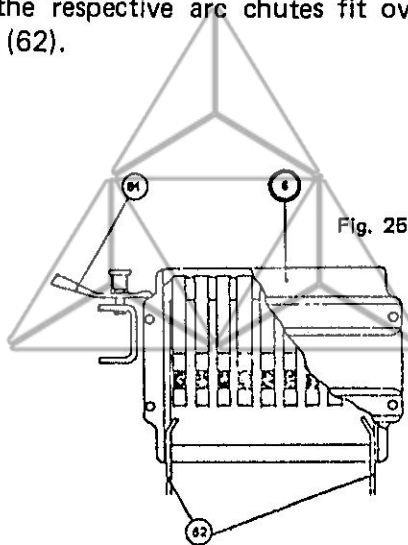

Fig. 25
- A. **Arc Chute (Fig. 25).** To remove arc chute, raise retaining lever (61), rotate lever 90 degrees to clear path, and remove arc chute by lifting upwards. The reverse procedure is followed for repositioning arc chutes, making sure the respective arc chutes fit over arcing horns (62).